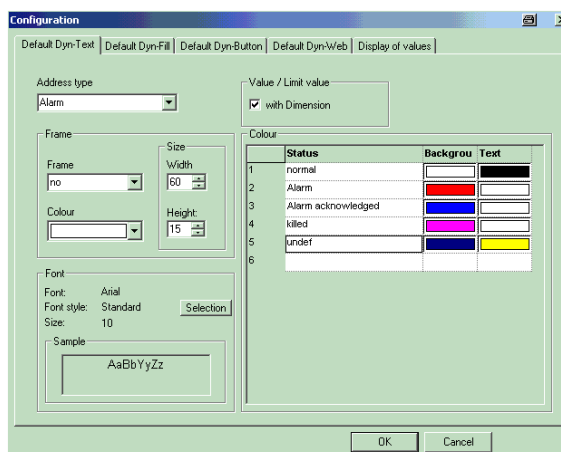

Fig. 9-6 General settings
- In the 'Default' zone, you can view and adjust the parameters of the various dynamisations of the chosen standard (see Fig. 9-6) using the 'Edit' button.